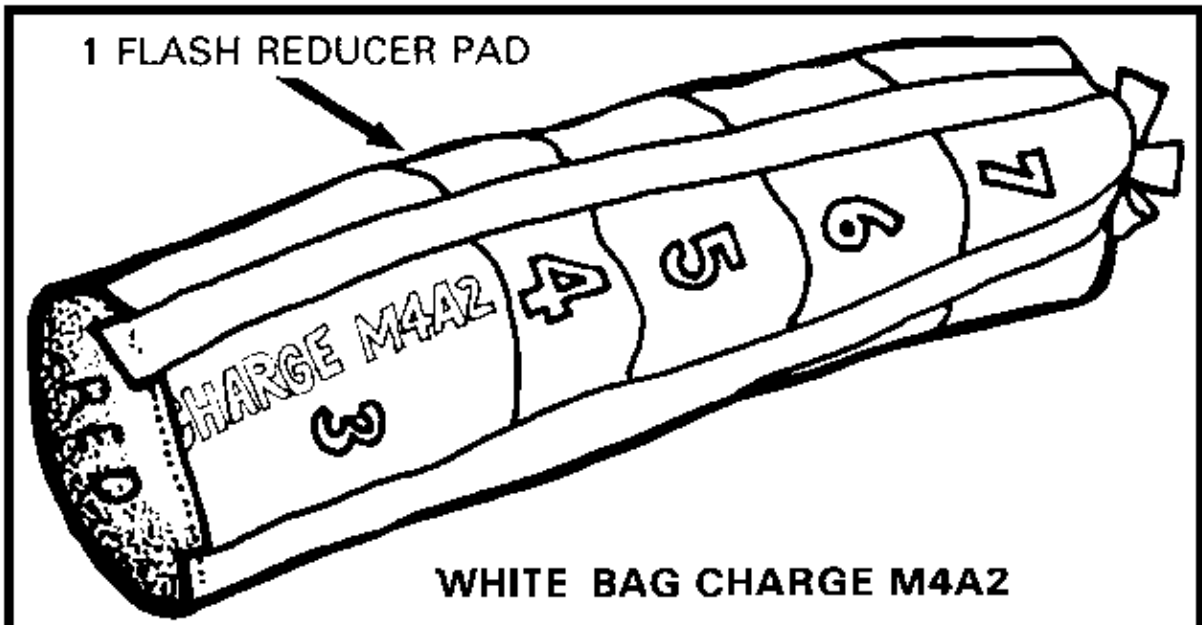

Figure 23. M4A2 propelling charge.
(2) Propelling charge M3. This is a green bag charge similar to propelling charge M3A1, except it is not assembled with a flash reducer and black powder is used in the igniter pad.
(3) Propelling charge M4A2. This is a white bag charge (Figure 23) consisting of a base charge and four increments for firing in zones 3 through 7. The increments are tied together by cloth tying straps. An igniter charge in a red cloth bag is sewn to the rear of the base section. It has a flash reducer pad assembled forward of the base charge.